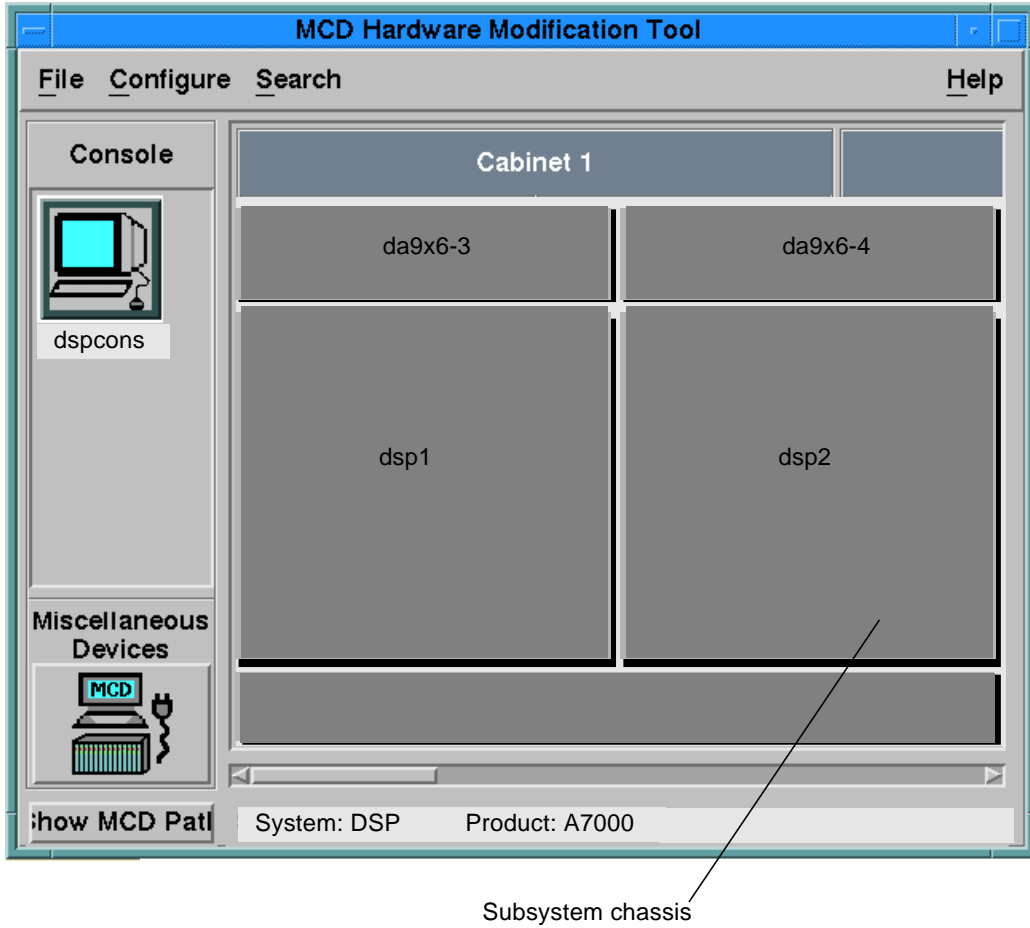
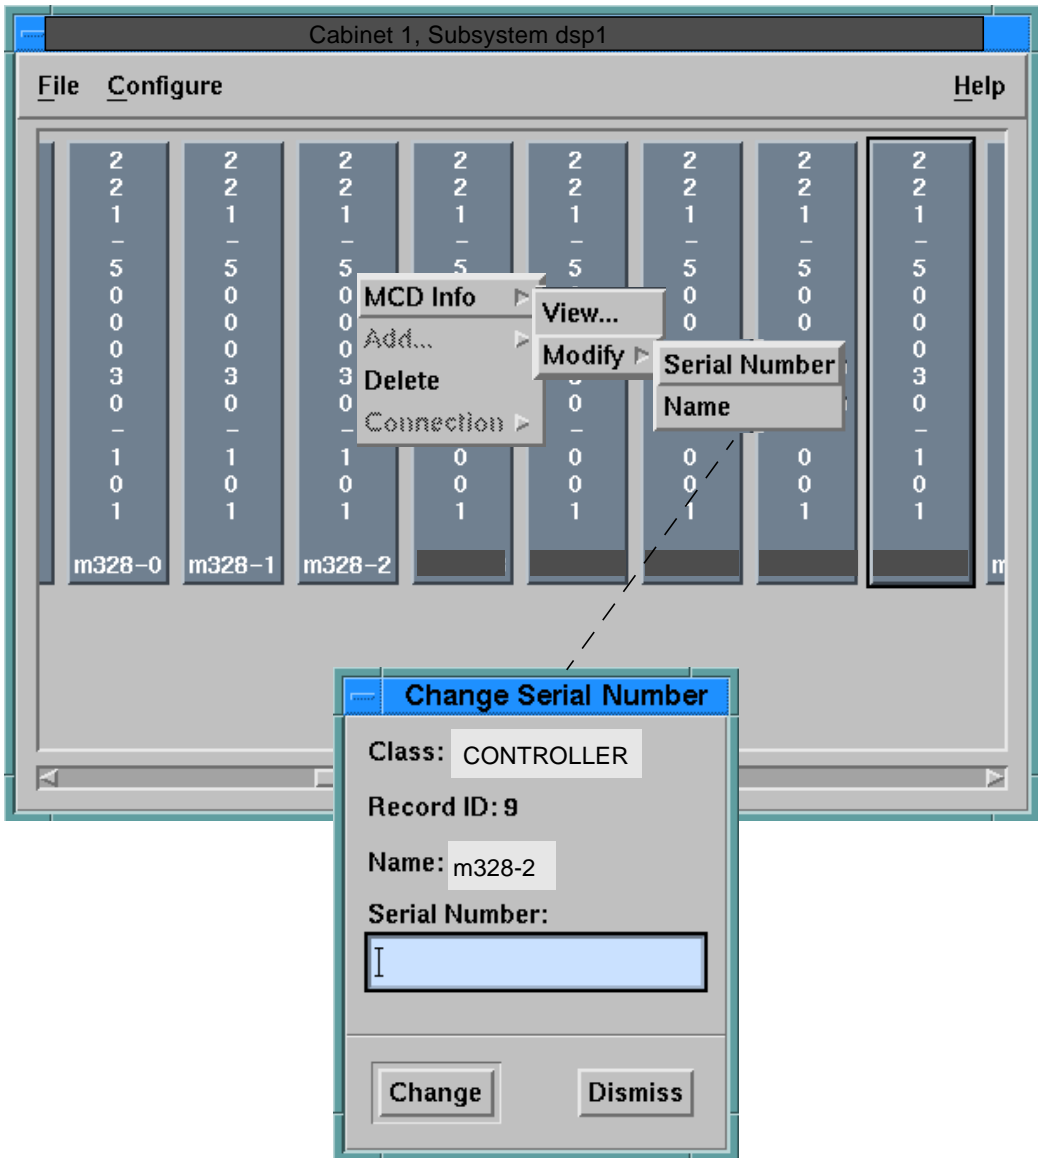

FIGURE 6-1 MCD Hardware Modification Tool
FIGURE 6-2 Changing the Serial Number
The MCD Hardware Modification Tool is displayed, as shown in FIGURE 6-1.
1. **In the MCD Hardware Modification Tool window (FIGURE 6-1), move the mouse pointer to dsp1 and double-click the left mouse button. A window showing all the cards in the dsp1 chassis is displayed. See FIGURE 6-2.**